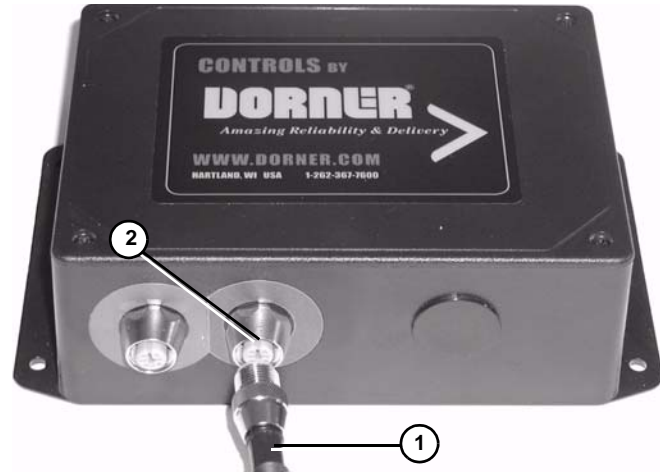

Figure 12
To create an indexing application, connect the photo eye cable (Figures 12 or 13, item 1) to the green port (Figures 12 or 13, item 2) on the bottom of the controller.